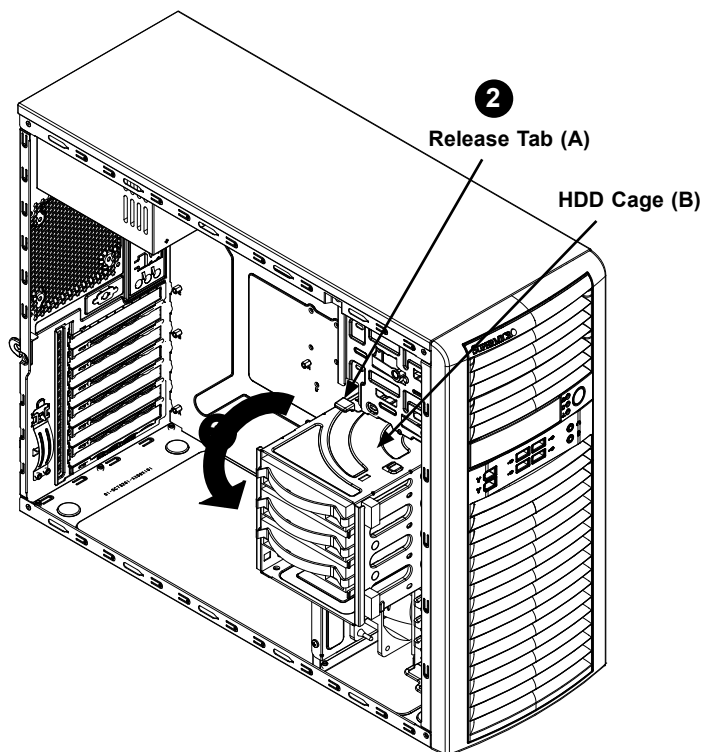

Figure 3-11. Rotating the Hard Drive Cage
1. To rotate the hard drive cage, lift the release tab (A) as shown in Figure 3-11.
2. Rotate the hard disk drive cage (B) outward.